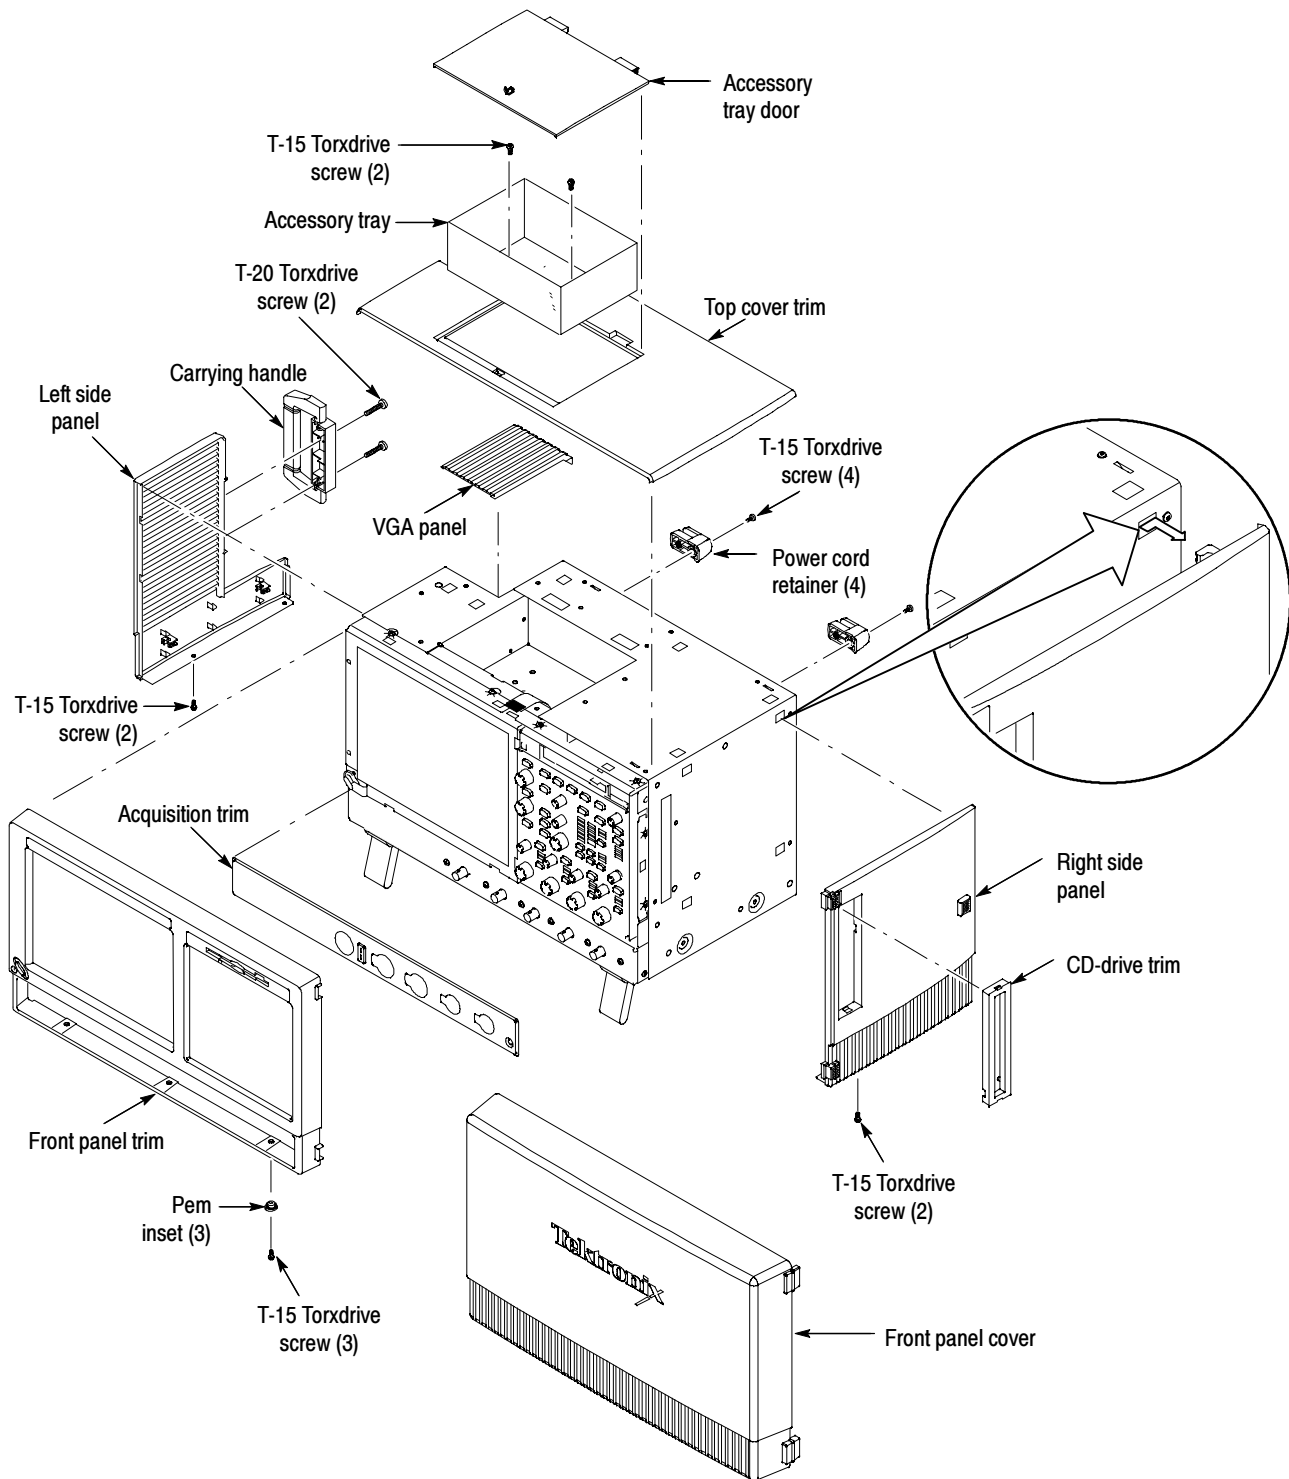

Figure 4: Trim removal
1. Locate the trim in the locator diagram. See Figure 4, page 12.
2. *Remove the right side panel:* Use Figure 4, page 12 as a guide.
3. *Remove the carrying handle and the left side panel:* Use Figure 4, page 12 as a guide.
4. *Remove the VGA panel:* Remove the VGA panel by gently pulling the trim up and out from the oscilloscope. Refer to Figure 4, page 12 as a guide.
5. *Remove the top cover:* Use Figure 4, page 12 as a guide.
- f. Remove the acquisition trim from the oscilloscope. Use Figure 4, on page 12 as a guide.